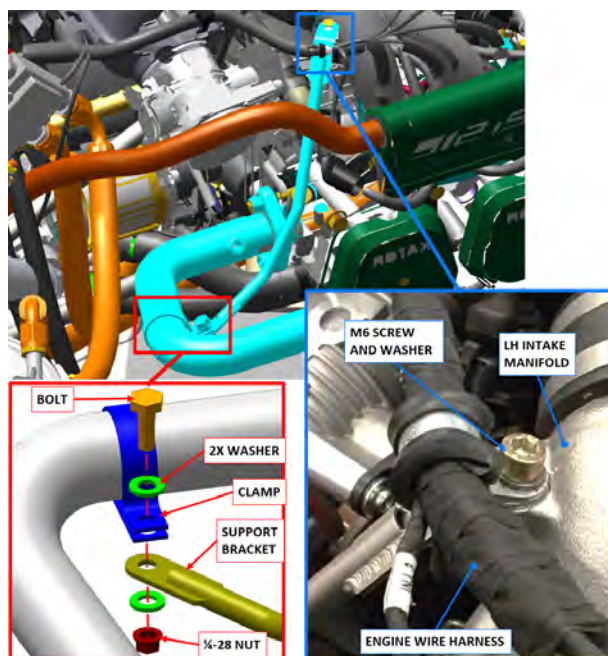

FIGURE 16-32
9. Remove bracket from the engine and FWD header using a 7/16" socket, 5/16" socket and 5 mm hex key. Install the M6 screw, washer, and wire harness clamp. (See Figure 16-32.)
6. Attach other end of support bracket and engine wire harness to intake manifold using M6 screw and washer (previously removed). Apply THREADLOCKER. Position wire harness clamp with flat side down on top of exhaust bracket as shown in Figure 16-32.